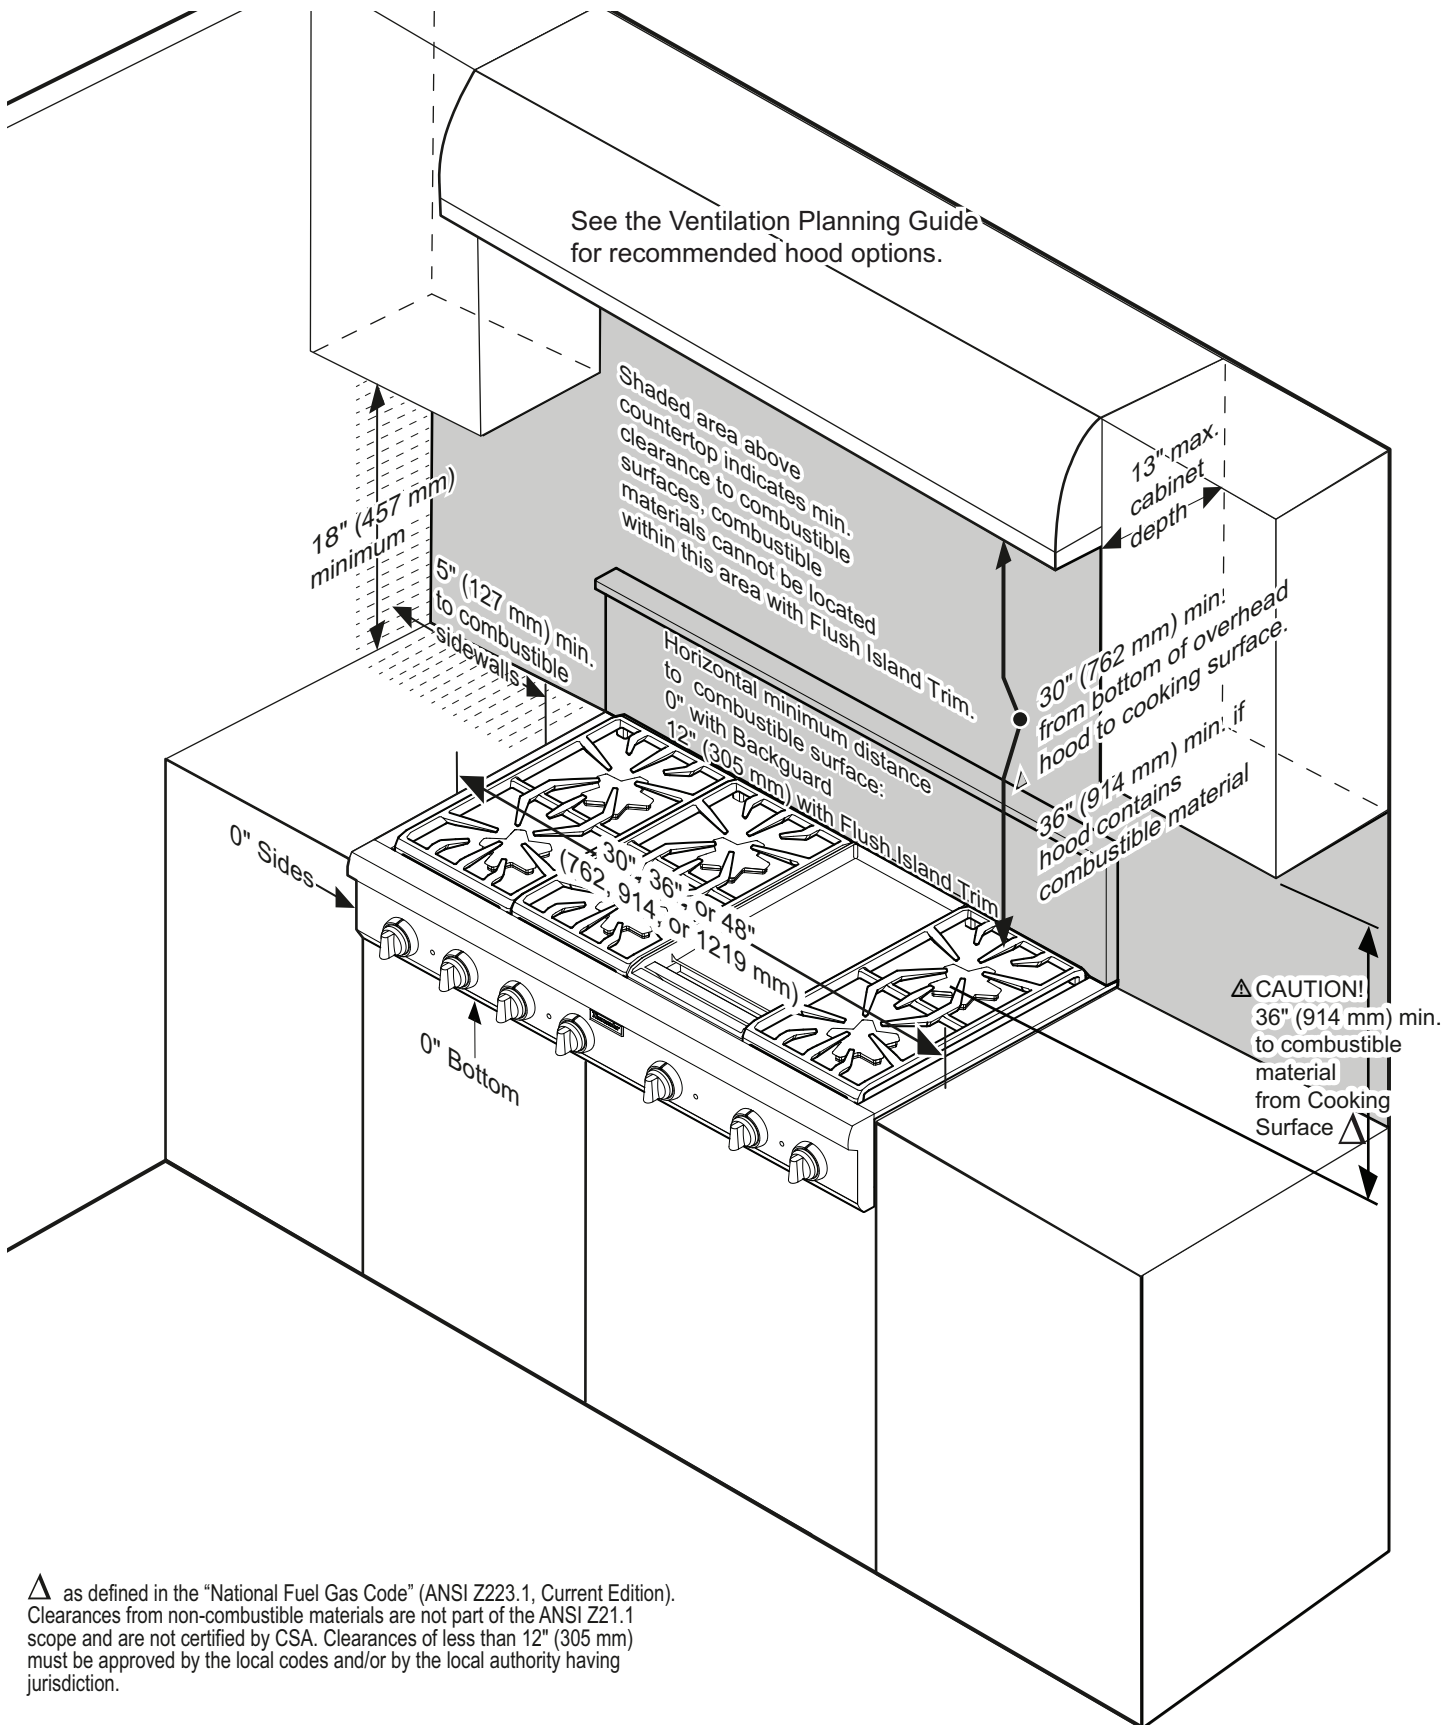

Figure 1: Clearance Requirements
When using the Flush Island Trim, THERMADOR recommends a minimum 12" (305 mm) rear clearance to a combustible surface (see Figure 1, Clearance Requirements). Clearances from non-combustible materials are not part of the ANSI Z21.1 scope and are not certified by CSA. Clearances of less than 12" (305 mm) must be approved by the local codes and/or by the local authority having jurisdiction.
- Use a 36" (914 mm) minimum clearance if the hood contains any combustible materials such as a wood covering (see *Figure 1 on page 7*).
2. The clearances shown in *Figure 1* are required. The same clearances apply to island installations, except for the overhead cabinets, which must have a space wide enough to accept the island hood.
7. When using the Flush Island Trim, THERMADOR® recommends a minimum 12" (305 mm) rear clearance to a combustible surface (see *Figure 1*, *Clearance Requirements*). Clearances from non-combustible materials are not part of the ANSI Z21.1 scope and are not certified by CSA. Clearances of less than 12" (305 mm) must be approved by the local codes and/or by the local authority having jurisdiction.
13. For installation of a 48" rangetop above two side-by-side THERMADOR® warming drawers (WD24), refer to *Figure 8*. Completing the installation as per *Figure 8* will result in the left and right edges of the rangetop being aligned with the left edge of the left-side warming drawer and right edge of the right-side warming drawer. If different alignment is desired, the 1 7/8" (48 mm) horizontal distance between warming drawer cutouts may be varied. However, maintain at least a 1 1/8" (29 mm) distance to avoid interference between the warming drawers. Attach a 90-degree elbow to the gas rangetop inlet pipe. All above-the-countertop clearances must be maintained, as shown in *Figure 1*.